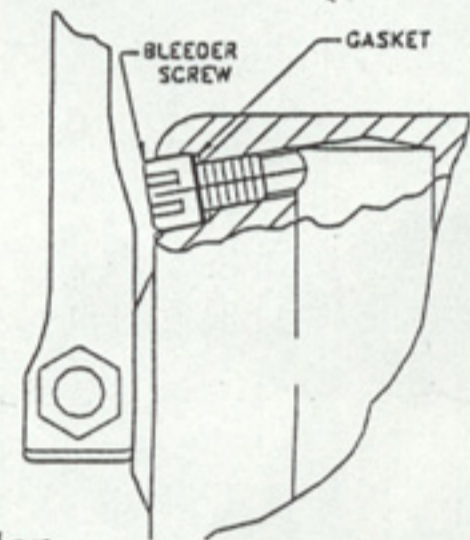

Figure 2 Sender
10. After bleeding Slaves, loosen allen screw behind handle at Sender until solid fluid (bubble-free) appears. Refer to Figure 2.